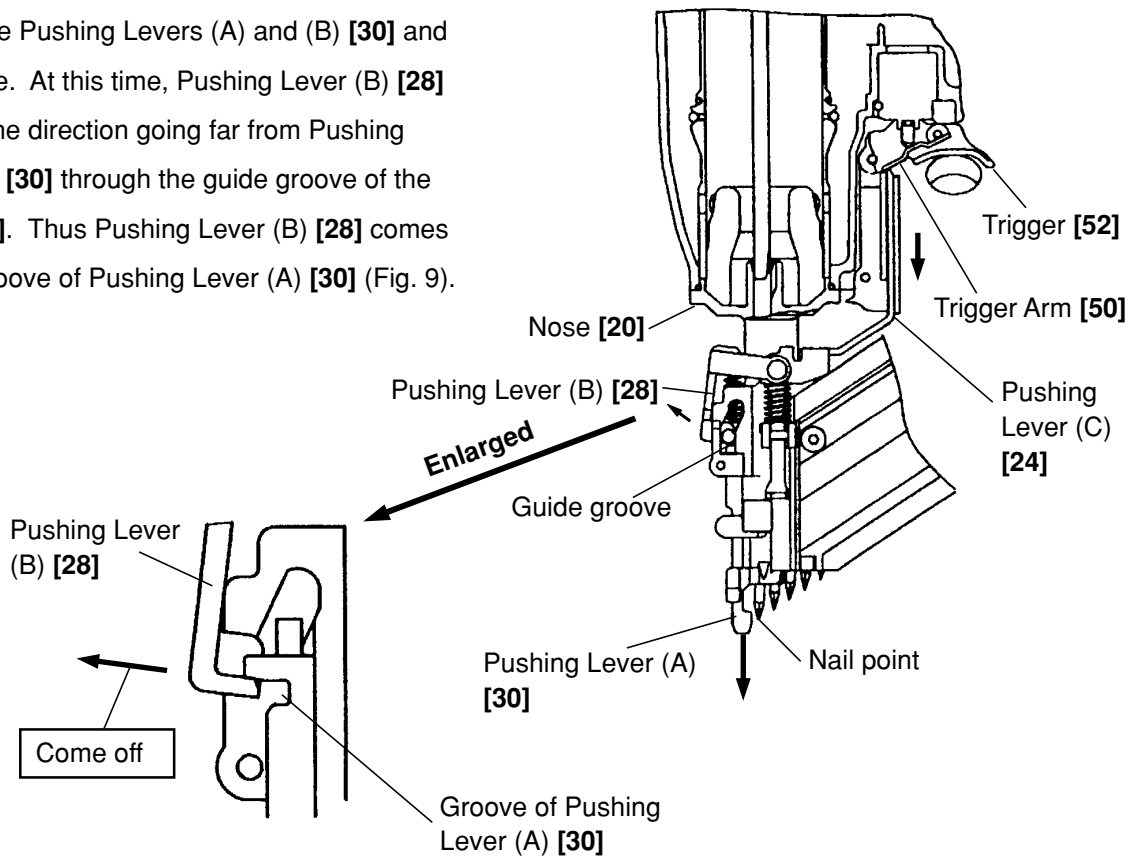

Fig. 9
(c) By pulling the Trigger [52] when there is no workpiece near the nail point, the Trigger Arm [50] pushes up Pushing Lever (C) [24] and at the same time Pushing Levers (A) and (B) [30] and [28] move. At this time, Pushing Lever (B) [28] turns in the direction going far from Pushing Lever (A) [30] through the guide groove of the Nose [20]. Thus Pushing Lever (B) [28] comes off the groove of Pushing Lever (A) [30] (Fig. 9).